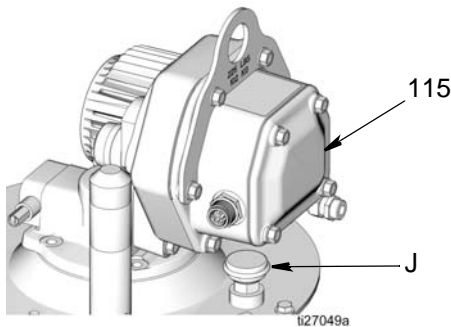

FIG. 51
NOTE: When the pump is correctly installed, the breather (J) will be below the control box (115) as shown in FIG. 51.